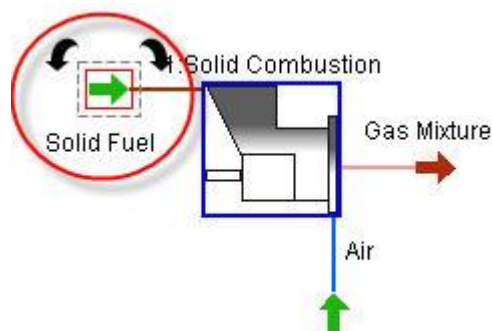

FIG. 7: Change of flow orientation
1. Select the *input flow connector* by left-clicking on the large arrow designating the beginning of the flow (you'll notice the appearance of two thin black arrows symbolizing the rotation, Fig. 7).